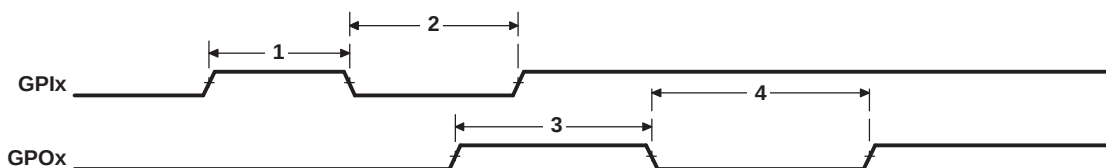

**Figure 6-19. GPIO Port Timing**
**Table 6-26. Timing Requirements for GPIO Inputs(1) (see Figure 6-19)**
- (1) The pulse width given is sufficient to generate a CPU interrupt or an EDMA3 event. However, if a user wants to have DM6446 recognize the GPIx changes through software polling of the GPIO register, the GPIx duration must be extended to allow DM6446 enough time to access the GPIO register through the internal bus.
**Table 6-27. Switching Characteristics Over Recommended Operating Conditions for GPIO Outputs (see Figure 6-19)**